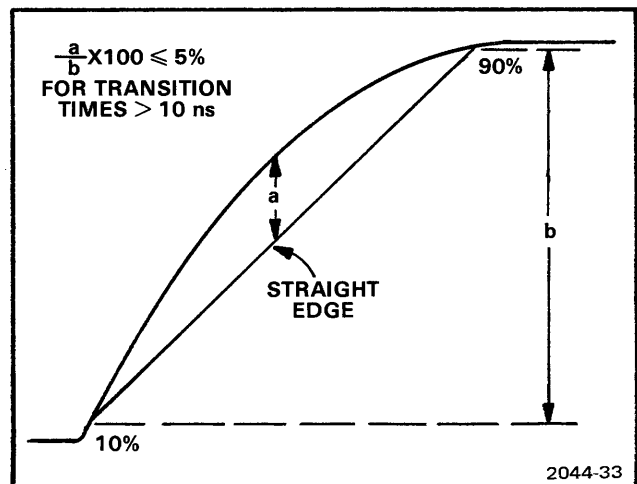

Fig. 4-1. Linearity check.
- e. CHECK the linearity from the 10% to the 90% point on the leading and trailing edges of the waveform. Place a straight edge on the 10% and 90% points of the transitions and measure any deviations as shown in Fig. 4-1.